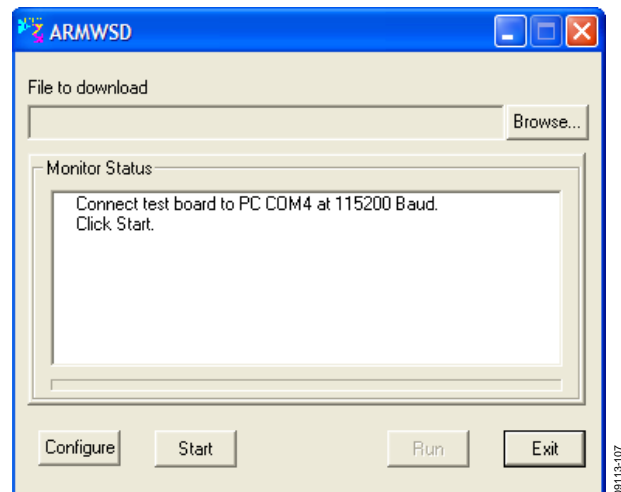

Figure 7. ISEB ARMWSD Firmware Downloader
- Run the **ARMWSD.exe** program (it can be downloaded from the ftp://ftp.analog.com/pub/iMEMS_Sensor_Eval/), it displays information about the downloader, as shown in Figure 7.
When the COM port is selected, click **OK** to accept the changes and go back to the ARMWSD box (shown in Figure 7).
1. Click **Start** in the ARMWSD box (see Figure 7) to initiate the flashing process. After clicking **Start**, click the two buttons (shown in Figure 9) on the ISEB in the following order to flash the firmware:
2. If the downloading process fails, which is indicated in the **Monitor Status** box (see Figure 7), attempt the download
3. After the download has completed successfully, click **Run** (as shown in Figure 7) to reset the ISEB and to begin running the new firmware. When this step is complete, the board is updated correctly.